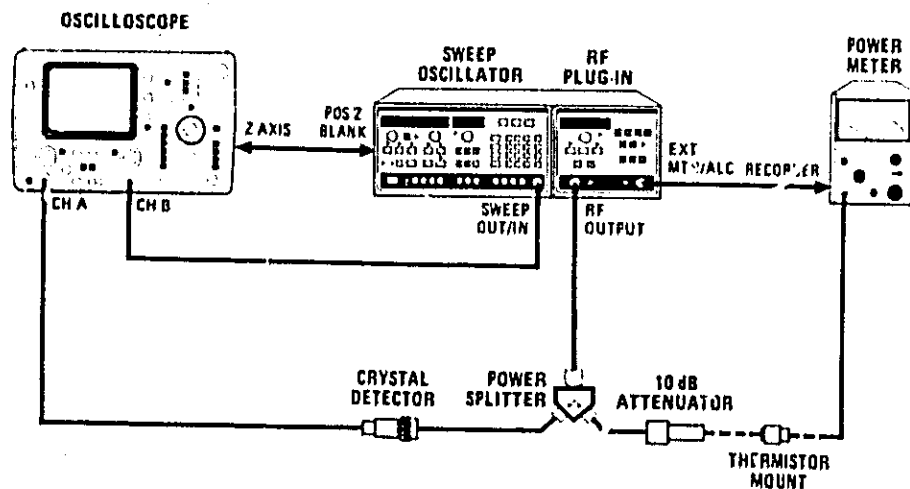

Figure 5-25. ALC Gain Adjustment Test Setup
1. Connect equipment as shown in Figure 5-25.